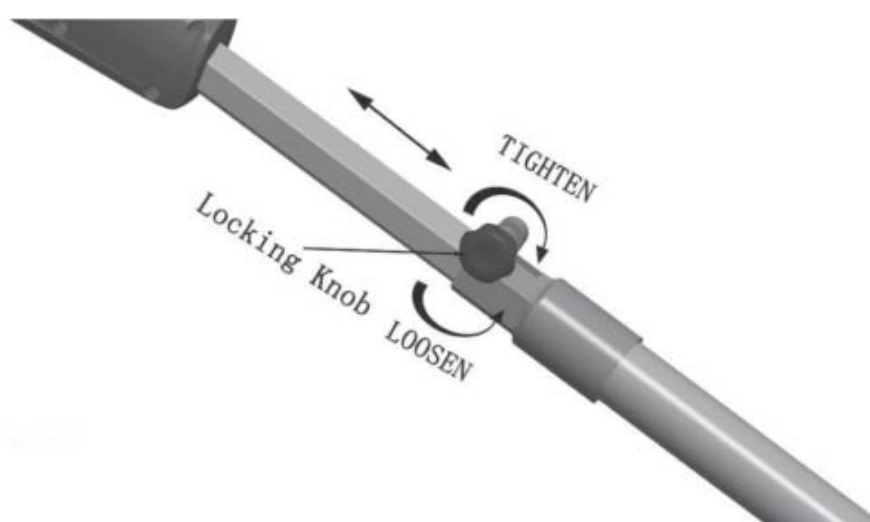

Figure 7
1. To extend the pole, loosen the locking knob (see Figure 7). Pole will slide freely.
3. To lock pole in position, tighten locking knob (see Figure 7).